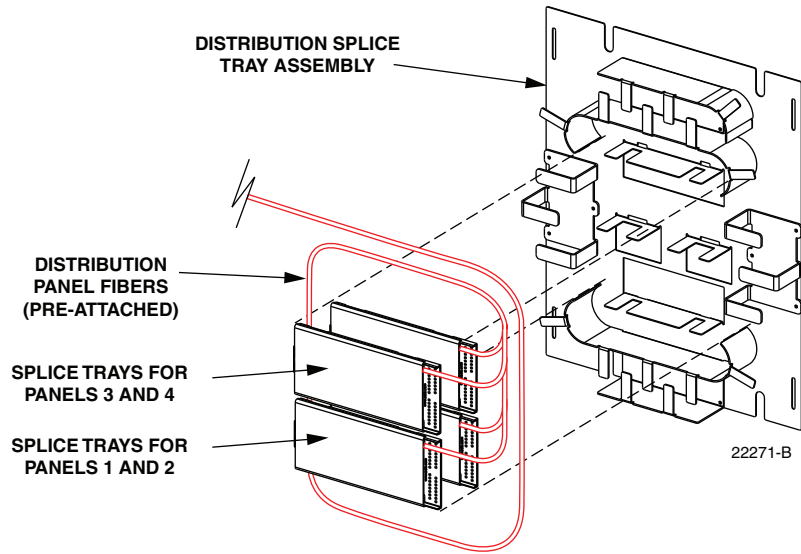

Figure 33. Distribution Splice Tray Assembly – Ribbon Cable
3. Unfasten the hook and pile strips that secure the tray in place and unwind the attached fiber tubes from around the distribution splice tray assembly as shown in Figure 33.